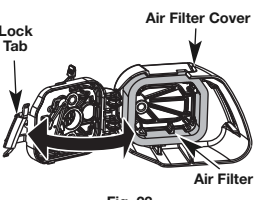

Fig. 23
- Open the air filter cover: press in the lock tab and swing the air filter cover to the right (Fig. 23).
- Remove the air filter from inside the air filter cover (Fig. 23).
- Reinstall the air filter inside the air filter cover (Fig. 23).
- Close the air filter cover: swing the air filter cover to the left and press it closed until the lock tab snaps into place (Fig. 23).